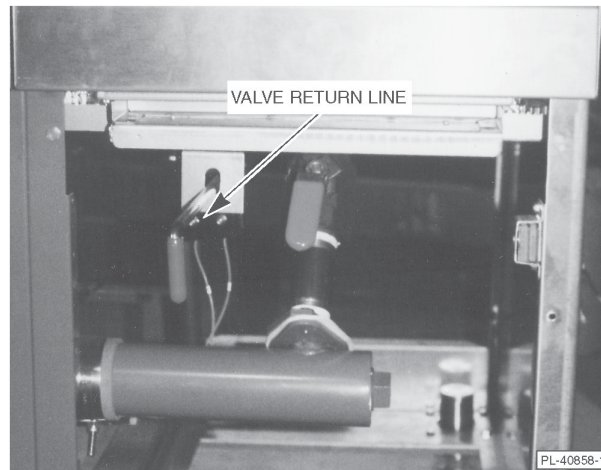

Fig. 4
After oil has filtered into the mobile filter, it is pumped back to the individual tank by (1) closing the drain valve, and (2) opening the valve on the return line (Fig. 4). Only one return valve should be opened at any one time.